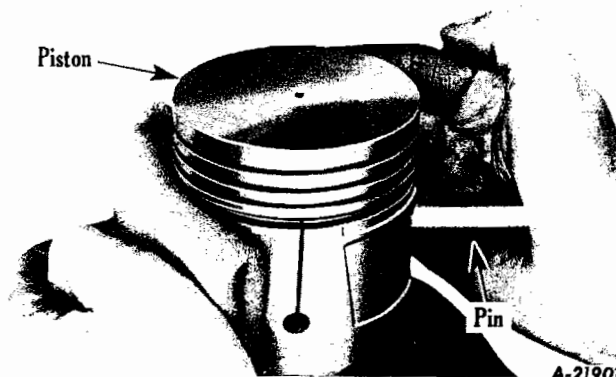

Fig. 57
1. With piston heated to approximately 200° F., support connecting rod in vise, push piston pin into piston bosses while piston is hot (Fig. 57). When assembling piston on rod, the slot in the piston skirt must be toward the camshaft side of the engine, which is the numbered side of the connecting rod. Install piston-pin retainer in piston at each end of pin, making sure that